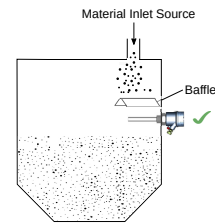

Figure 7: Casper with Baffle
- For side-mounting, provide a baffle to prevent the material from falling on the probe. Please refer to Figure 7.